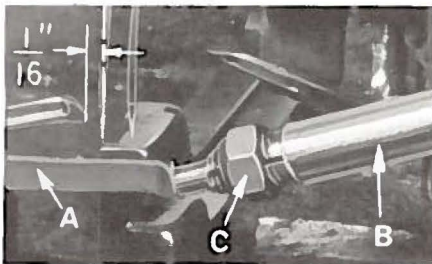

Fig. 5
At this point, insert lower looper (A, Fig. 5) into bar (B). With lower looper at left end of its stroke, set looper point $1/16$ inch from the center of left needle (Fig. 5), using looper gauge No. 21225- $1/16$. Do not have lower looper deflecting needle. Tighten nut (C).